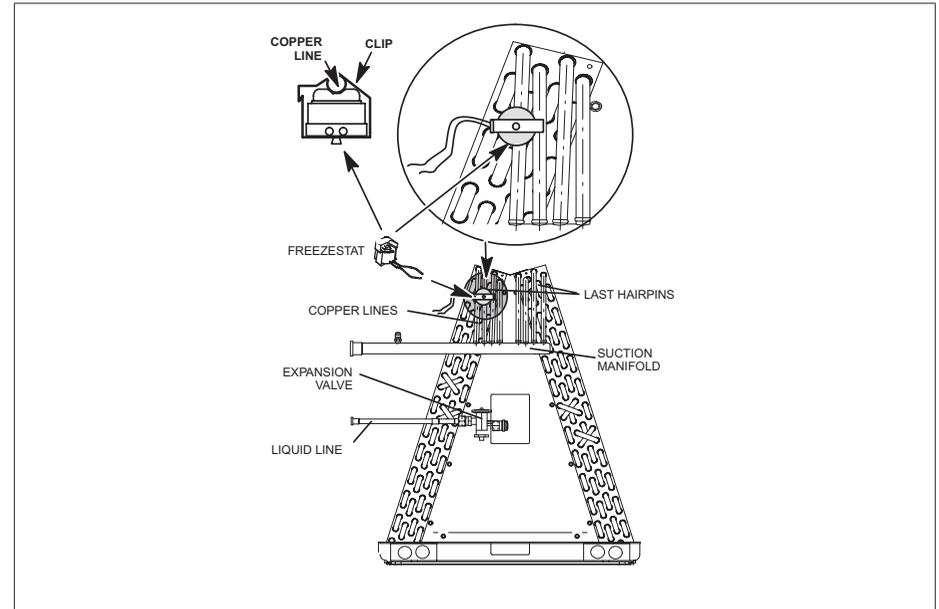

Figure 6. Typical Freezestat Installation - Indoor Coil
1. A freeze-stat, sized per “Table 7. Available Freeze-stats” and ordered separately, can be installed. Install the freeze-stat on one of the copper lines between the last hairpins and the suction manifold (see “Figure 6. Typical Freeze-stat Installation - Indoor Coil”) of the indoor coil.